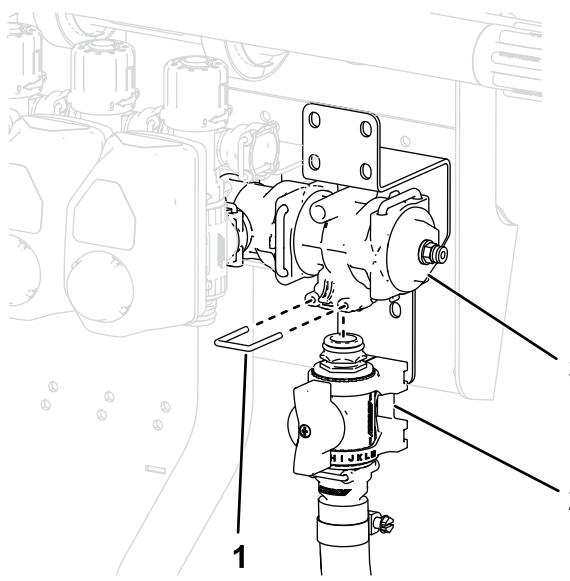

Figure 38
9. Secure the control-valve assembly to the T-fitting with a retainer as shown in Figure 38.